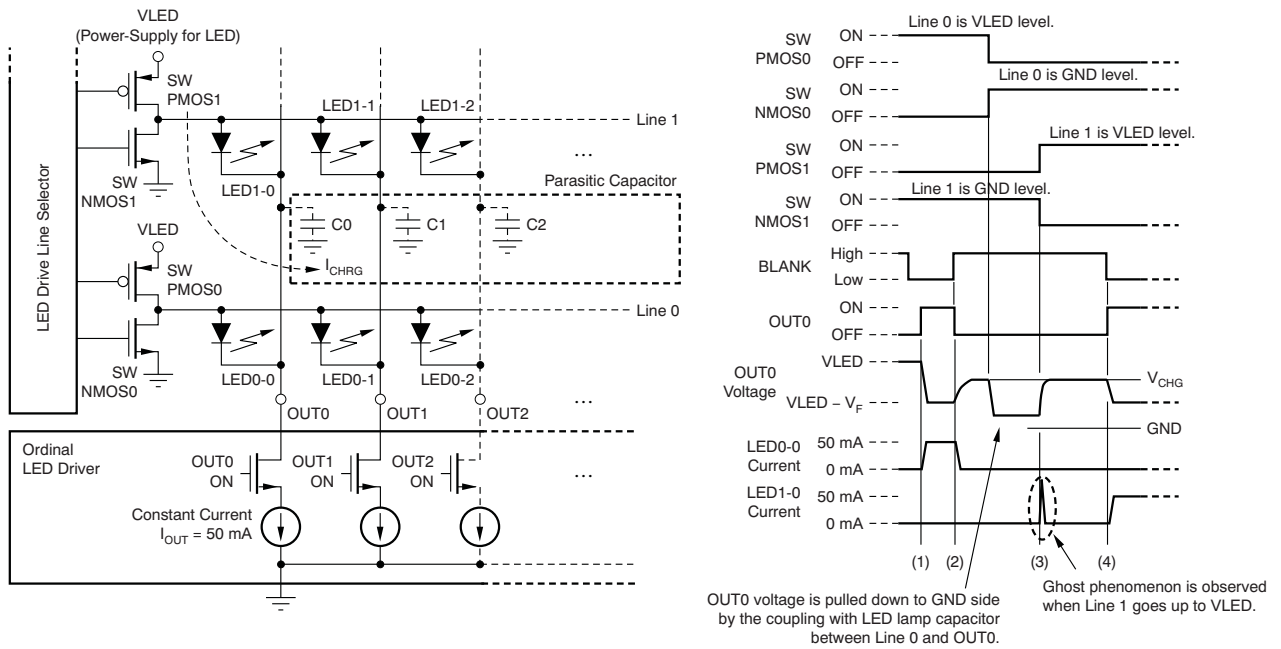

Figure 33. LED Ghost-Lighting Phenomenon Mechanism
The internal pre-charge FET can prevent ghosting of multiplexed LED modules. One cause of this phenomenon is the charging current for parasitic capacitance of the constant current output line and driver through the LED. One of the mechanisms is shown in Figure 33.
In Figure 33, the constant current driver turns LED0-0 on at (1) and off at (2). After LED0-0 is turned off, OUT0 voltage is pulled up to  $V_{CHG}$  by LED0-0. This OUT0 node has some parasitic capacitance (such as the constant current driver output capacitance, and the board layout capacitance shown as C0-2). After LED0-0 turns off, SWPMOS0 is turned off and SWNMOS0 is turned on for LINE0, then LINE0 is pulled down to GND. Because there is a parasitic capacitance between LINE0 and OUT0, OUT0 voltage is also pulled down to GND. After that, SWPMOS1 is turned on for next line (LINE1). When SWPMOS1 turns on, OUT0 voltage is pulled up from the ground voltage to  $V_{LED} - V_F$ . The charge current ( $I_{CHRG}$ ) flows to the parasitic capacitor (C0) through LED1-0, causing the LED to briefly turn on and creating the ghosting effect of LED1-0.